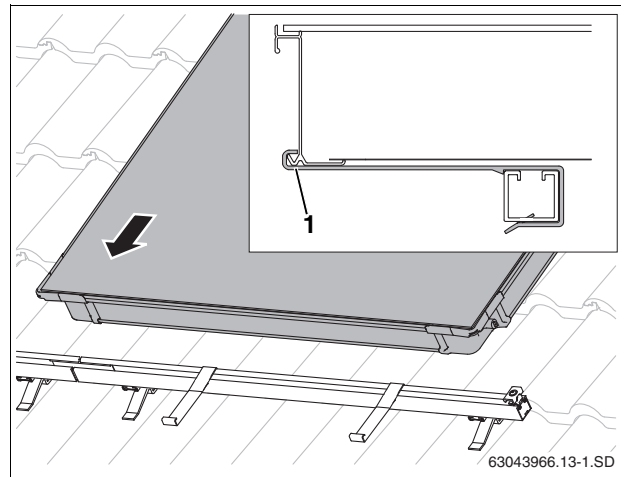

Fig. 39 Laying the first collector on the profile rails
- Place the first collector onto the horizontal rails and allow it to slide into the collector hangers (Fig. 39).
The lower collector edge must engage evenly with the hooks of both collector hangers. (Fig. 39, [1]).
- Carefully push collector (Fig. 39, [1]) up against the single-sided collector clamp and align horizontally.
- Tighten the screw on the single-sided collector clamp (Fig. 39, [2]) using size 5 Allen key.
The hook on the collector clamp (Fig. 39, [2]) now grips the lower collector edge.